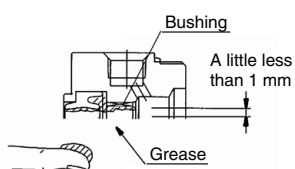

Fig. 6 Rod seal
- ③⑧ Rod seal B: Apply grease to the seal and the inner circumference of the bush. (Fig. 6)